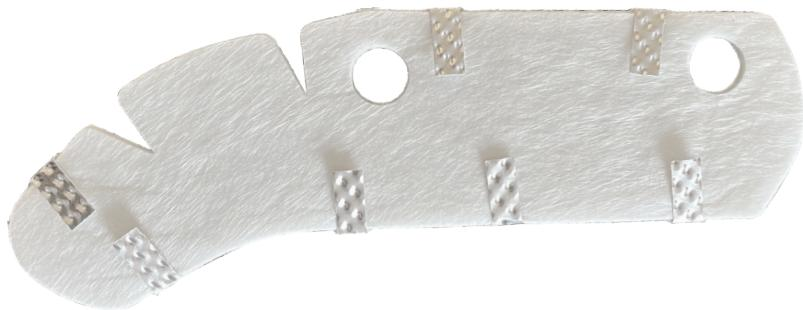

FIG 2
STEP 3. Fold the tabs of the aluminum around the Duraglass. Fig 2